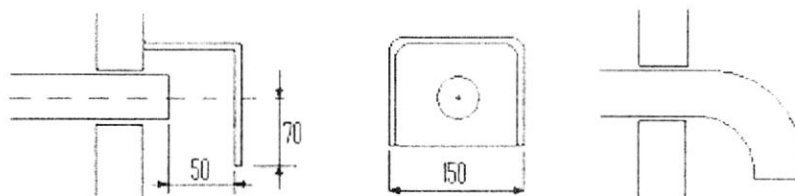

fig. 11
- It is necessary that the external outer end with a vertical 90° curve that faces the ground or something for wind protection, see fig. 11.